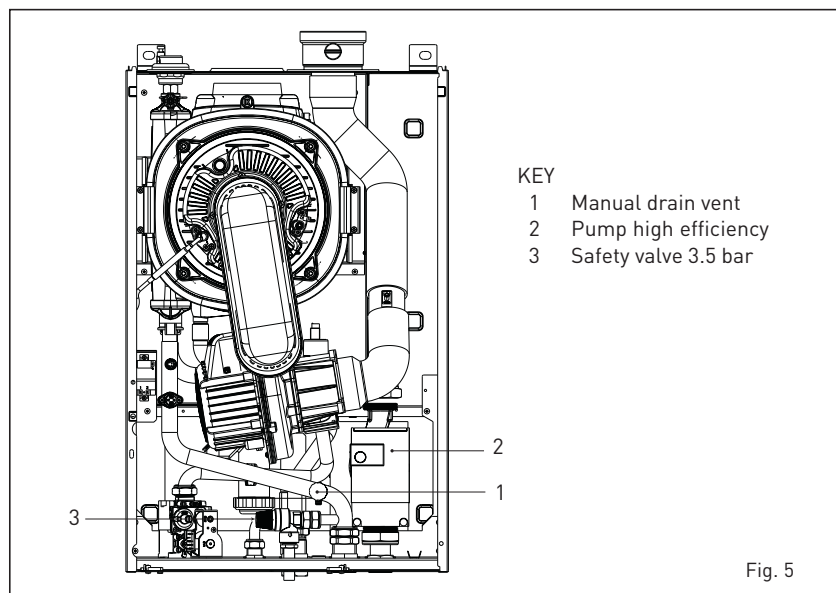

Fig. 5
**2.4 INITIAL PHASE SYSTEM FILLING (fig. 5)**
#### 2.4.1 System draining (fig. 5)
To drain the system, turn off the boiler, isolate the flow and return, and use the boiler drain vent (1 fig. 5).
#### 2.4.3 Requirements for sealed water systems MURELLE HE 70 R ErP (fig. 5/a)
- A filling device as shown in fig 5/a must be incorporated.